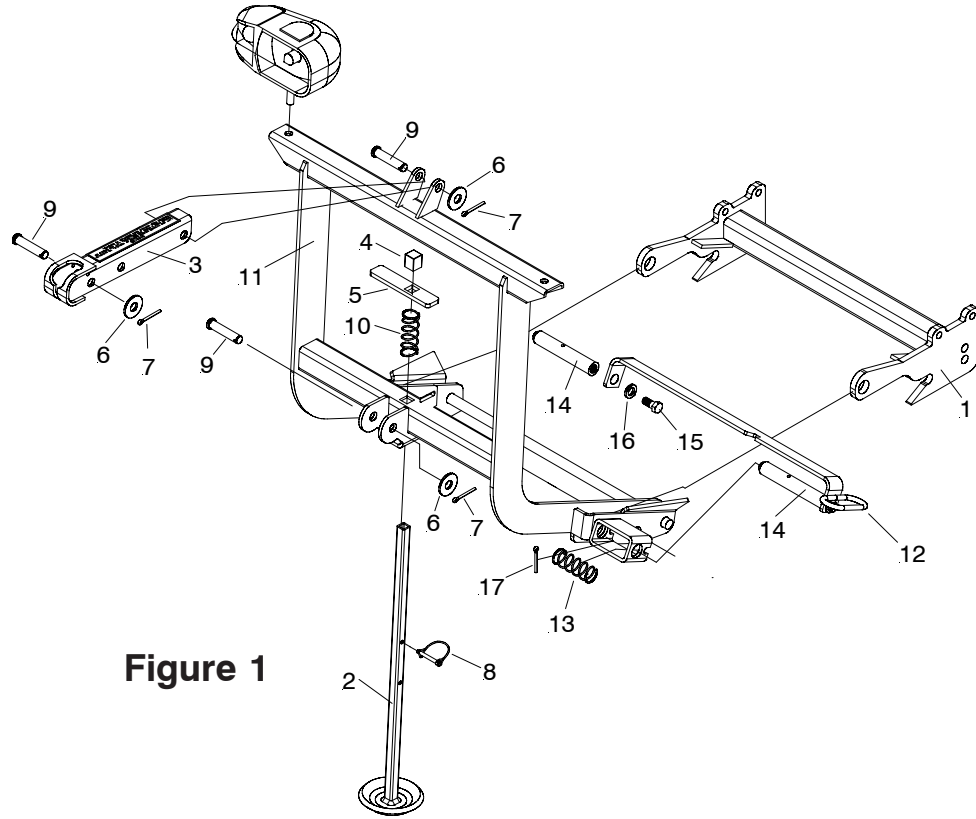

Figure 1
- A. Assemble Clevis Frame (1) to vehicle per separate Mounting Carton Instructions.
- B. **Note: Handle Pin has been pre-assembled to the Lift Frame.** Assemble Pin (14) to Handle Pin (12) using 3/8-16 x 1-1/4" Bolt (15) and 3/8" Poly washer (16). Only tighten until head of bolt begins to touch poly washer. Assemble to Lift Frame (11) by inserting the Pin (14) through the Lift Frame plates, through the center of the spring (13). Compress the spring (13) slightly with your fingers and insert the 3/16" x 1-1/2" Cotter Pin (17) through the small hole towards the center of the pin. With cotter pin (17) fully inserted, bend the cotter pin in place. Align the notch on the Handle Pin (12) to Lift Frame (11) to lock in place (disengaged). **Note: Lubricate the stainless steel pins and Lift Frame bearing surfaces with chassis grease or anti-seize lubricant periodically for easier disengagement of pins.**
- C. Slide Jack Stand (2) thru bottom of Lift frame (11), Spring (10) and Jack Lever (5). **Be sure short side of Jack Lever (5) is oriented into the slot of the Lift Frame.** **Note: Wire Lynch Pin (8) is used to Lock the Jack Stand (2) in the raised position once the plow is attached to the vehicle.**
- D. Attach Lift Frame (11) to Clevis Frame (1) (Ref. Figure 1). Twist the Handle Pin so that the two Pins (14) engage. The spring loaded pin should snap into place locking the lift frame to the clevis frame.
- E. Attach Lift Arm (3) to Lift Frame (11), Mount Hydraulic unit to lift frame (15) and to lift arm (4) using Pivot Pin (9), 5/8" Washer (6) and 1/8 x 1-1/4" Cotter Pin (7).
- H. Attach the Lift Chain to the Lift Arm (3) through the hook on the lift arm. Adjust the lift chain at the lift arm so that there are 2-3 links of slack. This ensures that the plow blade will lift fully and be able to follow the ground contour while plowing.